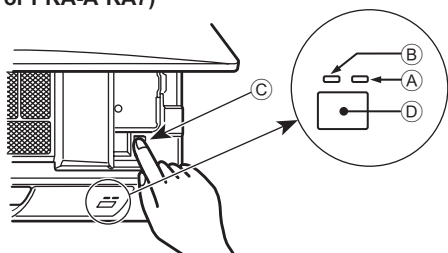
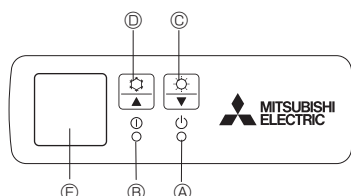

Fig. 4-1
Fig. 4-2
[Fig. 4-1] ① DEFROST/STAND BY lamp (Orange)
② Operation lamp (Green)
③ Emergency operation switch (cooling/heating)
④ Receiver
[Fig. 4-2] ① DEFROST/STAND BY lamp
② Operation lamp
③ Emergency operation switch (heating)
④ Emergency operation switch (cooling)
⑤ Receiver